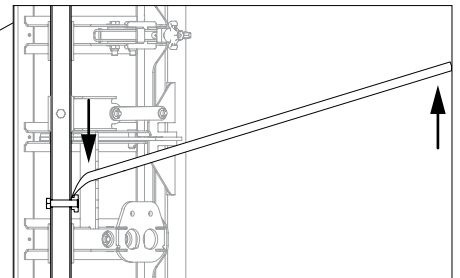

Fig. A11.03b
1. Insert formwork lever into the opening (80.4) and press upwards. (Fig. A11.03b)